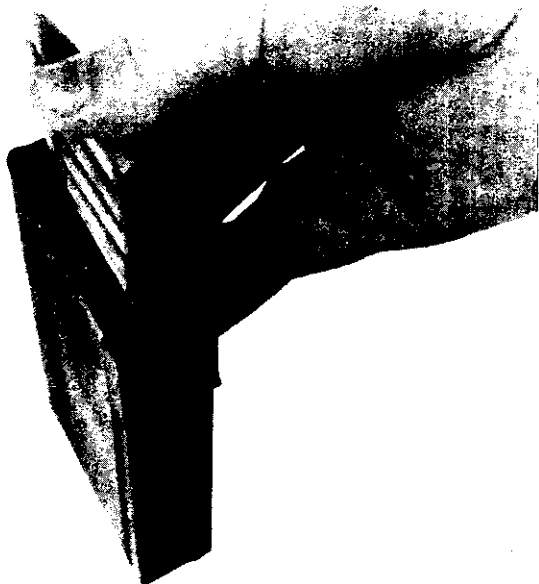

Figure 26. Loading the magazine using the magazine filler (magazine out of rifle).
b. To load the magazine with a 5-round cartridge clip, the magazine filler is used (fig. 26). Slide the filler over the top rear portion of the magazine and insert a 5-round cartridge clip into the filler. Place either the thumb or the open end of the combination tool on the top round and push the 5 rounds into the magazine. Remove the clip and repeat the process until 20 rounds have been loaded into the magazine, then remove the magazine filler.